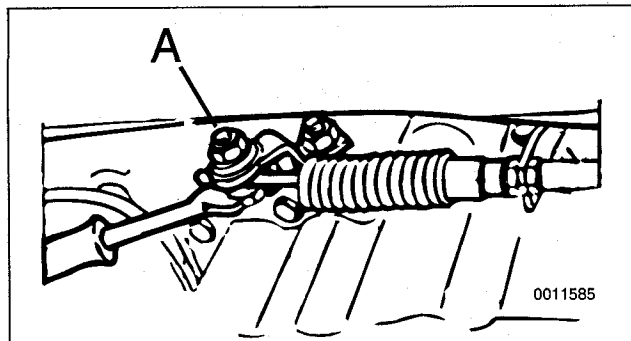

Fig. 7. Selector lever cable clamping nut (A). Counterhold clamping bolt when loosening nut.
3. Loosen selector cable clamping nut. See Fig. 7.